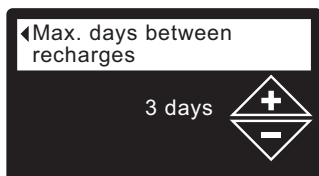

FIG. 48
5. Press the SELECT (O) button to display the Max. days between recharges screen (See Figure 48).